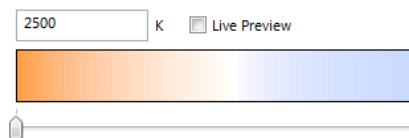

Figure 199: Selecting a colour temperature.
- **Colour Temperature** (see Figure 199): This colour type is also referred to as tunable white. Here a slider allows to select the colour temperature between a “warmer” white (red) and “cooler” white (blue). Alternatively, the desired colour temperature can be entered as number in Kelvin. Note, that a lower Kelvin value is considered a “warmer” white and vice versa.